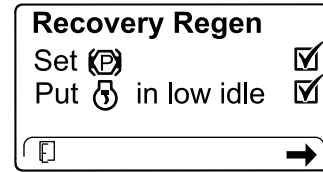

Figure 56
- At the DPF checklist screen, verify that the parking brake is engaged and that the engine speed is set to low idle (Figure 56).